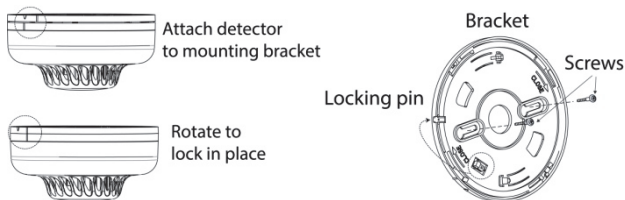

Figure 7: Smoke and heat detector installation
To install the detector (see Figures 7 & 8)
2. Remove the locking pin securing the mounting bracket to the unit (see Figure 7).
6. Using screws (supplied) attach the bracket to the wall as shown in Figure 7.
Insert the locking pin in order to secure the mounting bracket to the detector (Figure 7).